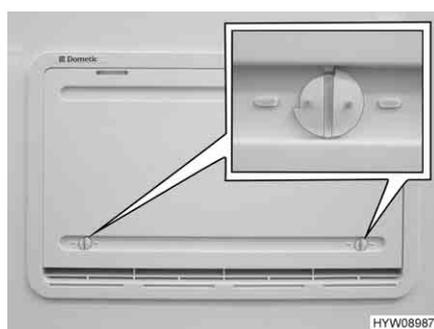

Fig. 219 Winter cover
If the refrigerator is to be operated at low external temperatures, the manufacturer recommends the use of a winter cover (Fig. 219) for the refrigerator ventilation grills.
- Open both locks (Fig. 219) (groove in horizontal position).